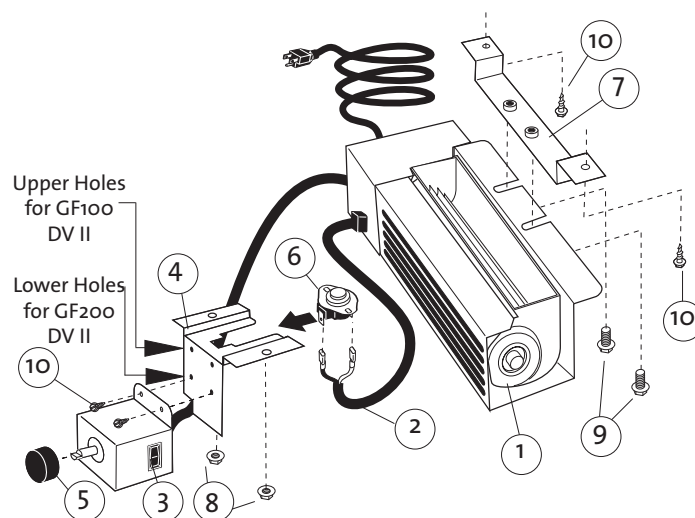

Figure 35. Blower Kit Components
1. **Unpack and check the contents** of the blower kit. Contact your dealer if any damage is evident or parts are missing. See fig. 35.
2. **Attach the Control Box to the Snapstat Bracket** using two #8 x 1/2" sheet metal screws. As shown in fig. 35, use the pair of mounting holes appropriate for your stove.
GF 100 DV II: First install the Mounting Bracket to the holes in the bottom of the rear shroud using two #8 x 1/2" sheet metal screws. Then attach the Blower to the Mounting Bracket using the two M6 x 12 mm flange head hex bolts as shown in fig. 35 and 37.
5. Attach either Snapstat wire connector to either Snapstat terminal. See figs. 35 and 37.